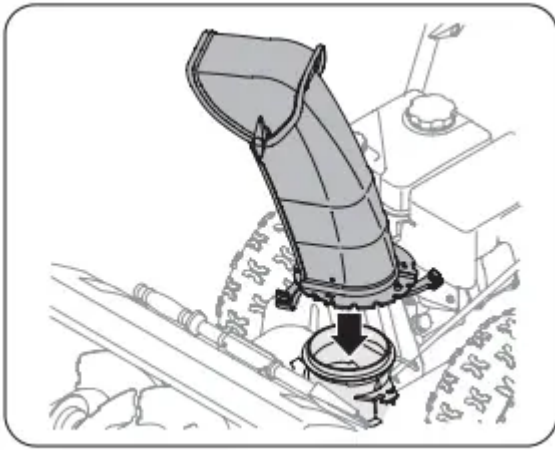

Figure 9
- Position chute assembly over base. See Figure 9.